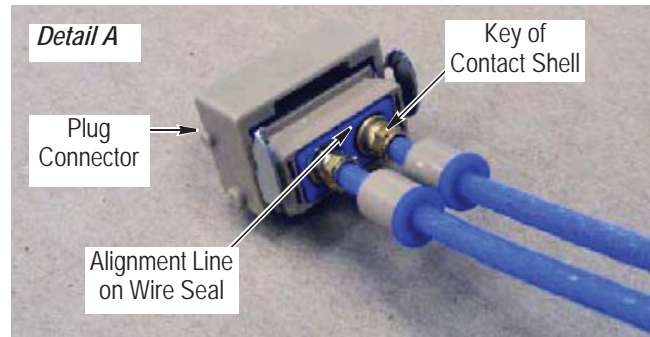

*Figure 12*
12. Using the crimping tool, crimp the contact, then check the crimp height as shown in Figure 12.